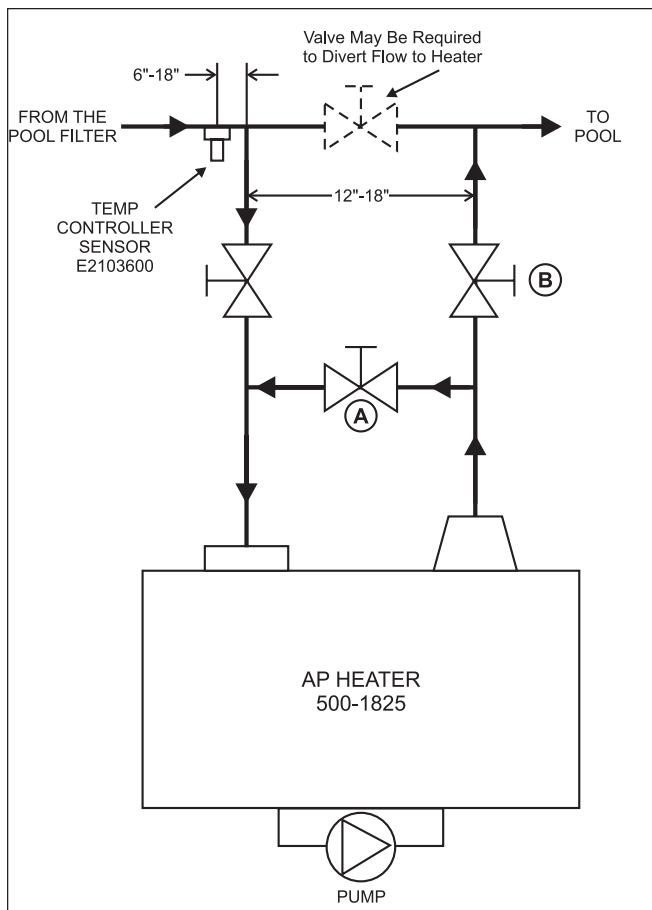

Figure 10. Heater Piping Arrangement.
In addition to the bypass valve “B” and outlet valve “A” shown in Figure 10, an inlet valve “C” should be provided so that the heater can be readily isolated for service. All valves should be butterfly or ball style, not gate valves. For spas application see Section 3.9.
All MT series boilers, 500-1825 models, must be installed with bypass piping. Please use Figure 10 as your guide to plumb the bypass. For spas see Section 3.9.
All models are supplied with integral pumps, These pumps are sized for the pressure drop through the heat exchanger, 30 feet of piping and through the bypass piping as shown in Figure 10.
All models must be installed in the primary-secondary arrangement shown. The boiler loop piping must tee into the filter loop piping with the inlet and outlet connection spaced a maximum of 18" (450mm) apart (see Figure 10).
A temperature sensor with 15 feet (5m) of cable and an immersion well assembly are supplied with the boiler. These must be installed in the field. Refer to Figures 10 through 11.
1. The immersion well body is provided with a 1/2" NPT. Mount the immersion well on the underside of the filter circulation piping, just upstream of the boiler inlet tee as close to the boiler as possible (see Figure 10). **DO NOT INSTALL in boiler loop piping or downstream of the boiler inlet tee.**
- Since outlet temperatures can approach 140°F (60°C) units **must** be piped in a primary-secondary style, similar to that shown in Figure 10.